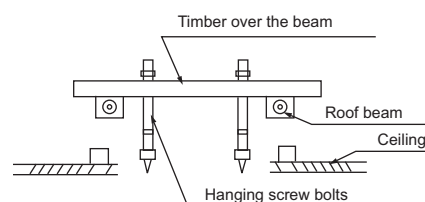

Fig. 5-3
- Please Refer to Fig.5-3 and Fig.5-4 for the hanging screw bolts distance